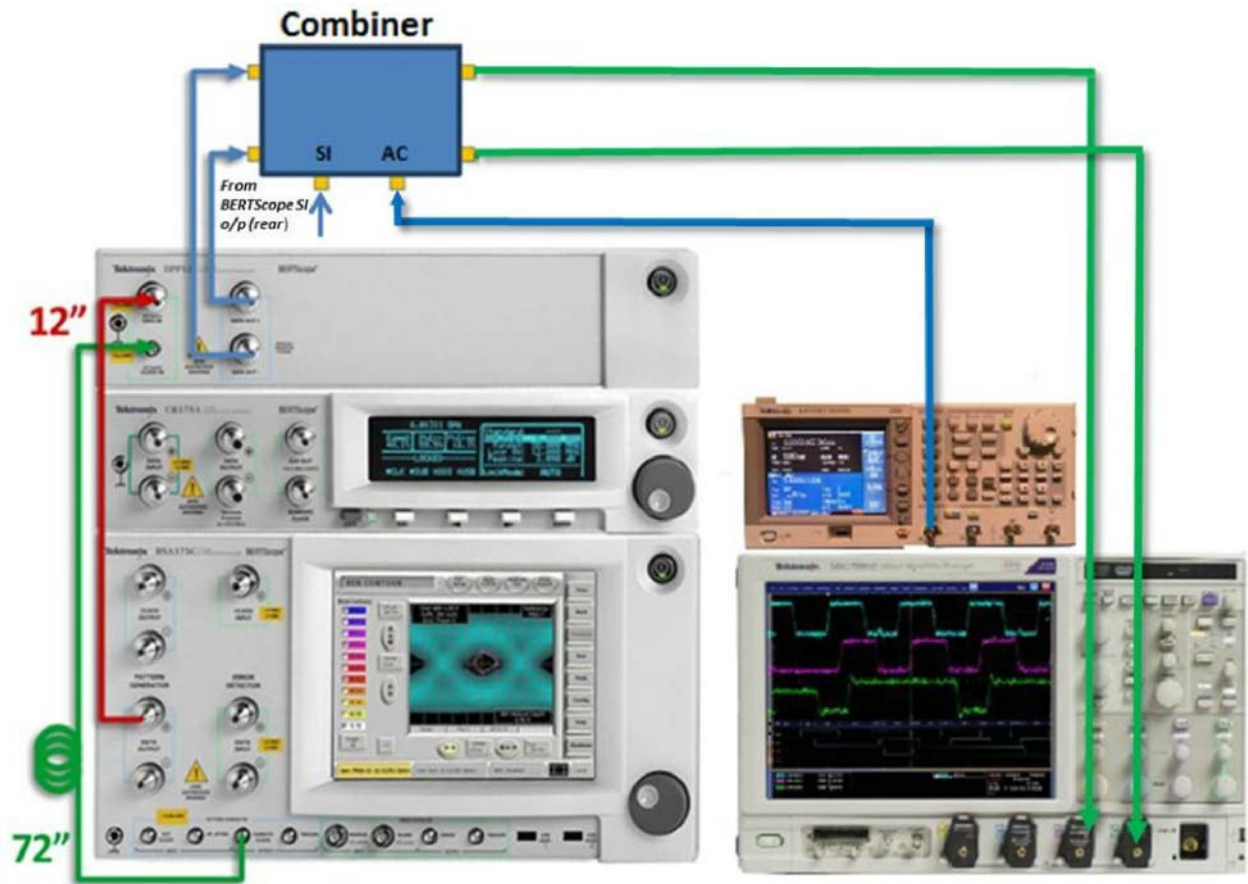

Figure 21: Stress Configuration setup for Stressed Voltage
- c. Once error free operation is obtained, **find** the boundary between error free and errored operation by **decreasing** the Generator Delay and using a binary search method as shown in Figure 21 below. Record the Generator Delay.